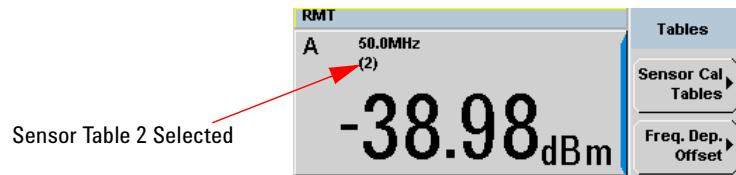

Figure 6-9 Frequency dependent offset indicator
- 4** Press **Done** again to display the measurement screen. Figure 6-9 shows which offset table is selected.